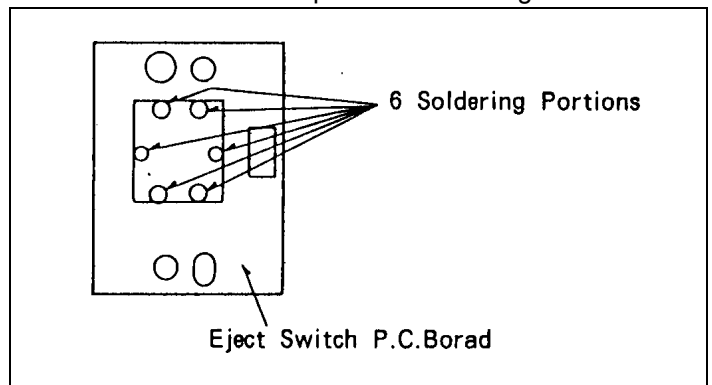

Figure 7-16-3 Eject Switch Removal
3. Unsolder 6 soldered points shown in figure 7-16-3.